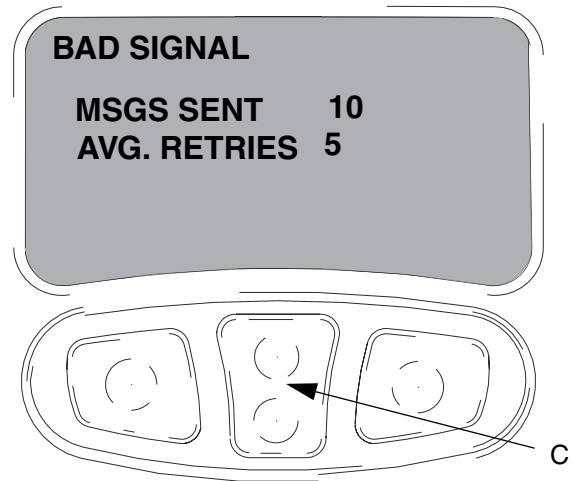

FIG. 7
Optional information is displayed by pressing the up center button (C) **during** the RF signal testing process. Pressing the down center button (C) **during** the RF signal testing process hides this information. See FIG. 7.
For example, FIG. 7 illustrates an RF interval test where a total of 50 resend messages were bad out of a possible 100 (10 test interval messages x 10 retries = 100) $100 \div 50 = 5$.